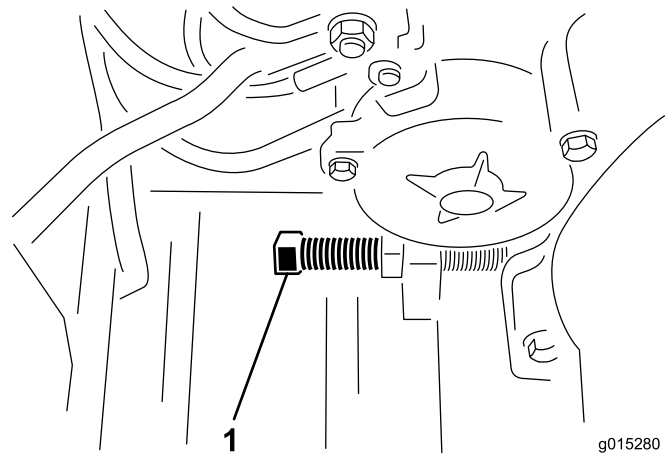

Figure 22
2. Turn the belt adjusting bolt until the desired belt tension is obtained. Slightly tighten the engine mounting bolts. Adjust the engine so that it is parallel with frame. Continue tightening the engine mounting bolts (Figure 22).